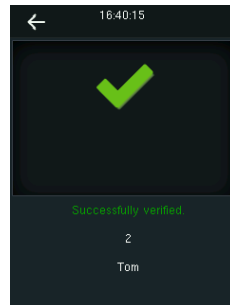

figure 6
**Wiegand Input:** The device has Wiegand input function, can connect the external card reader. Device and card reader can be installed respectively inside and outside of the door, control the lock together, control out & in. (For detail, please see **Figure 6**.)
4. Input the correct password (same as inputting ID Number) and press **[OK]** to confirm the password. After verification succeed, **figure 6** will display.